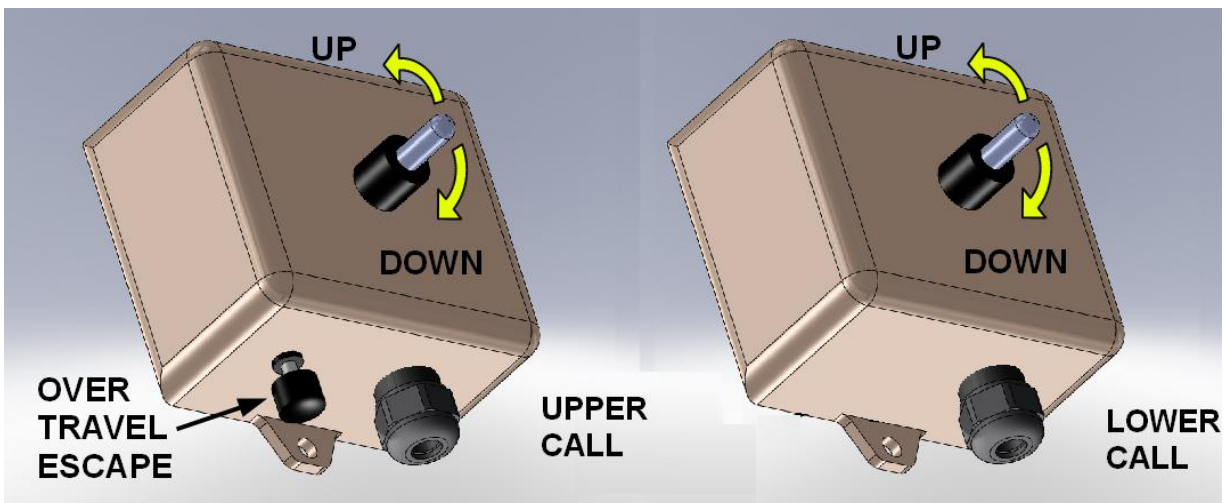

Figure 2: Upper and Lower Call
- D. **Over-travel Escape:** The lift will be stopped by the over-travel switch if the upper limit switch fails to operate. To recover from this, first depress (press in) the platform emergency stop and then press the over-travel escape switch on the bottom of the upper call-send station (reference Figure 2). The platform will travel slightly downward until the over-travel switch closes or for a maximum of one second. Normal operation may then be resumed by pulling the platform emergency stop switch back out.